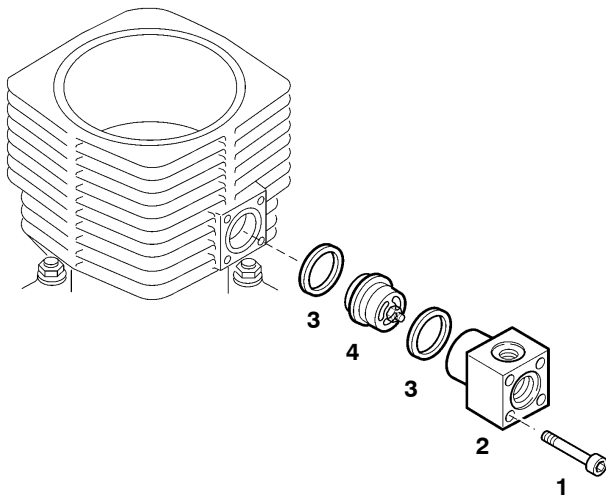

Fig. 14 Valves 2nd stage
- Unscrew the intake and pressure lines from the intake and outlet manifolds (2, Fig. 14).
- Unscrew 4 allen screws ea. (1) and remove intake and outlet manifolds from cylinder.
- Discard gaskets (3) and replace by new ones.
- Clean intake and pressure valves (4) and check for wear and damage.